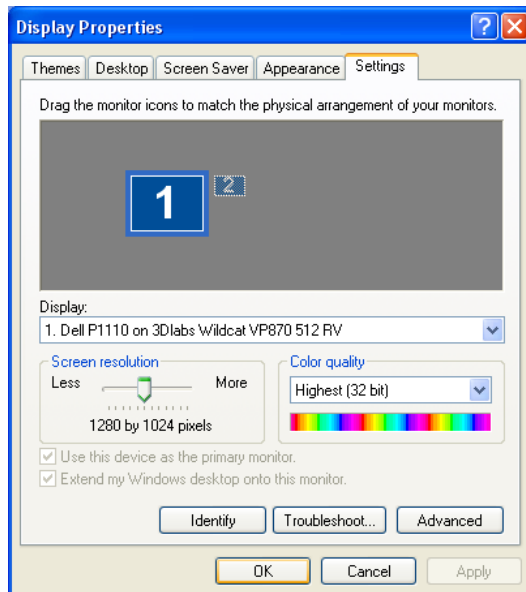

Fig. 21 Settings tab
- Click the Settings tab to display the dialog shown in Fig. 21.
Fig. 21 shows an example configuration with a monitor connected to the host system's primary display adapter (which may be on the motherboard, or in an AGP, PCI or PCI-eXpress slot), and a 2nd Monitor connected to a VREngine/SMD series board.